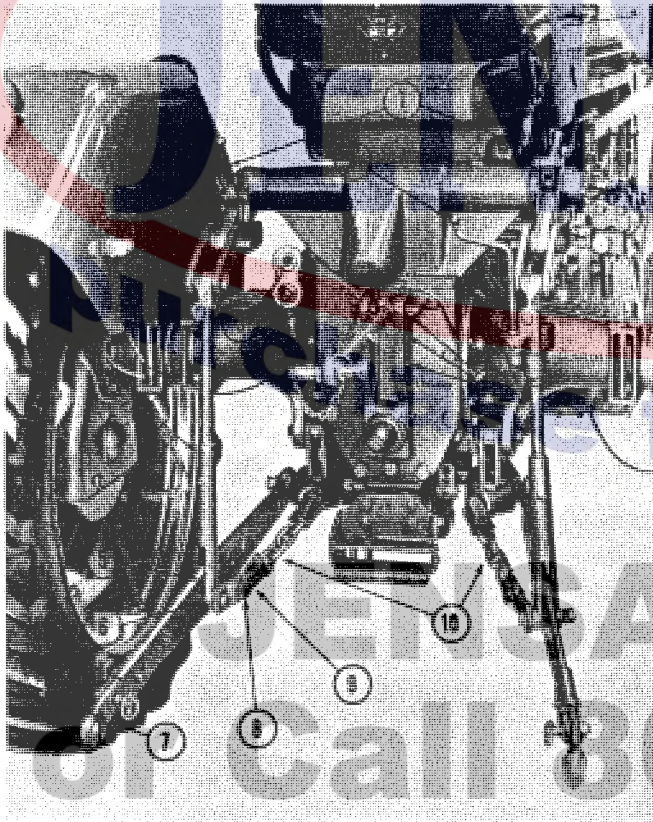

Fig. 9 - Tractor Nomenclature
1. The lower links have wrist action ball ends shown by No. 7, Fig. 9, to facilitate implement hitching. The ends are removable to provide interchangeability of the link ball sizes at the hitch points. A 1-1/8 inch diameter link ball, commonly referred to as a Category 2 Link Ball, is standard equipment on all models. However, a 7/8 inch link ball, commonly referred to as a Category 1 Link Ball, is available as an accessory item. Refer to the "Accessory" section under the heading "Three-Point Hitch Conversion for Category 1 Implements".
2. The lower links have check chains, shown by No. 10, Fig. 9, which limit their lateral movement. The check chains are attached to brackets on the lower links with removable pins. Each bracket has two attaching points, shown by Nos. 8 and 9, in Fig. 9, to permit using either Category 1 or Category 2 implements. Always use attaching hole "2" for the Category 2 implements, which are normally used with the Super 90 Tractor. Use attaching hole "1" only when using special implements of the Category 1 type.
3. The hinged lift arms, No. 1, Fig. 9, on the tractor hydraulic lift shaft may be released to facilitate rapid implement hitching and permit wide ground supported implements, such as the gauge wheel controlled tool carrier, to follow uneven ground.
4. A tubular, turnbuckle-style upper link, No. 3, Fig. 9, is provided on both the standard and high clearance model tractors. For the standard tractor, the nominal upper link length is 31-1/2 inches with an overall adjustment range of 28-1/2 inches to 34-1/2 inches and for the high clearance model, the nominal length is 27 inches with an adjustment range of 24 to 30 inches.